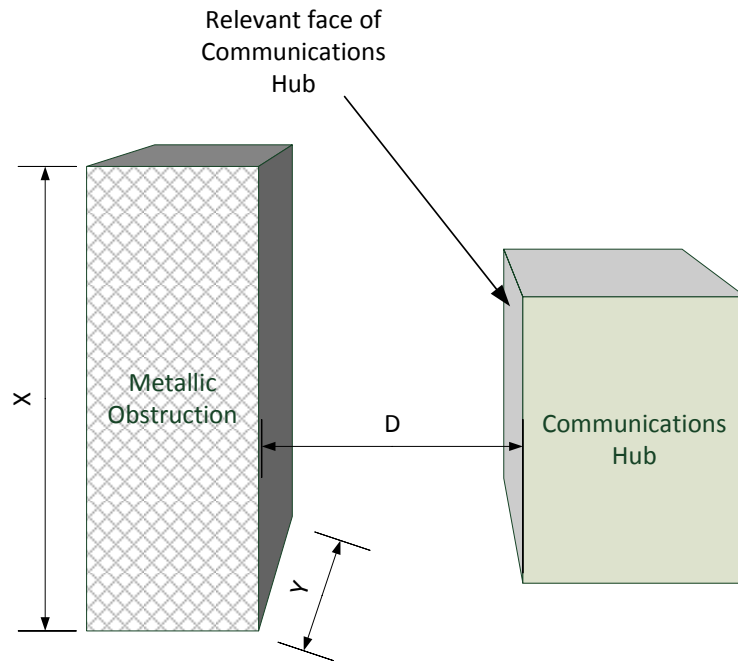

Figure 1; Metallic Obstruction
4.1.2 With the measurements as illustrated in Figure 1, Significant Metallic Obstruction means: